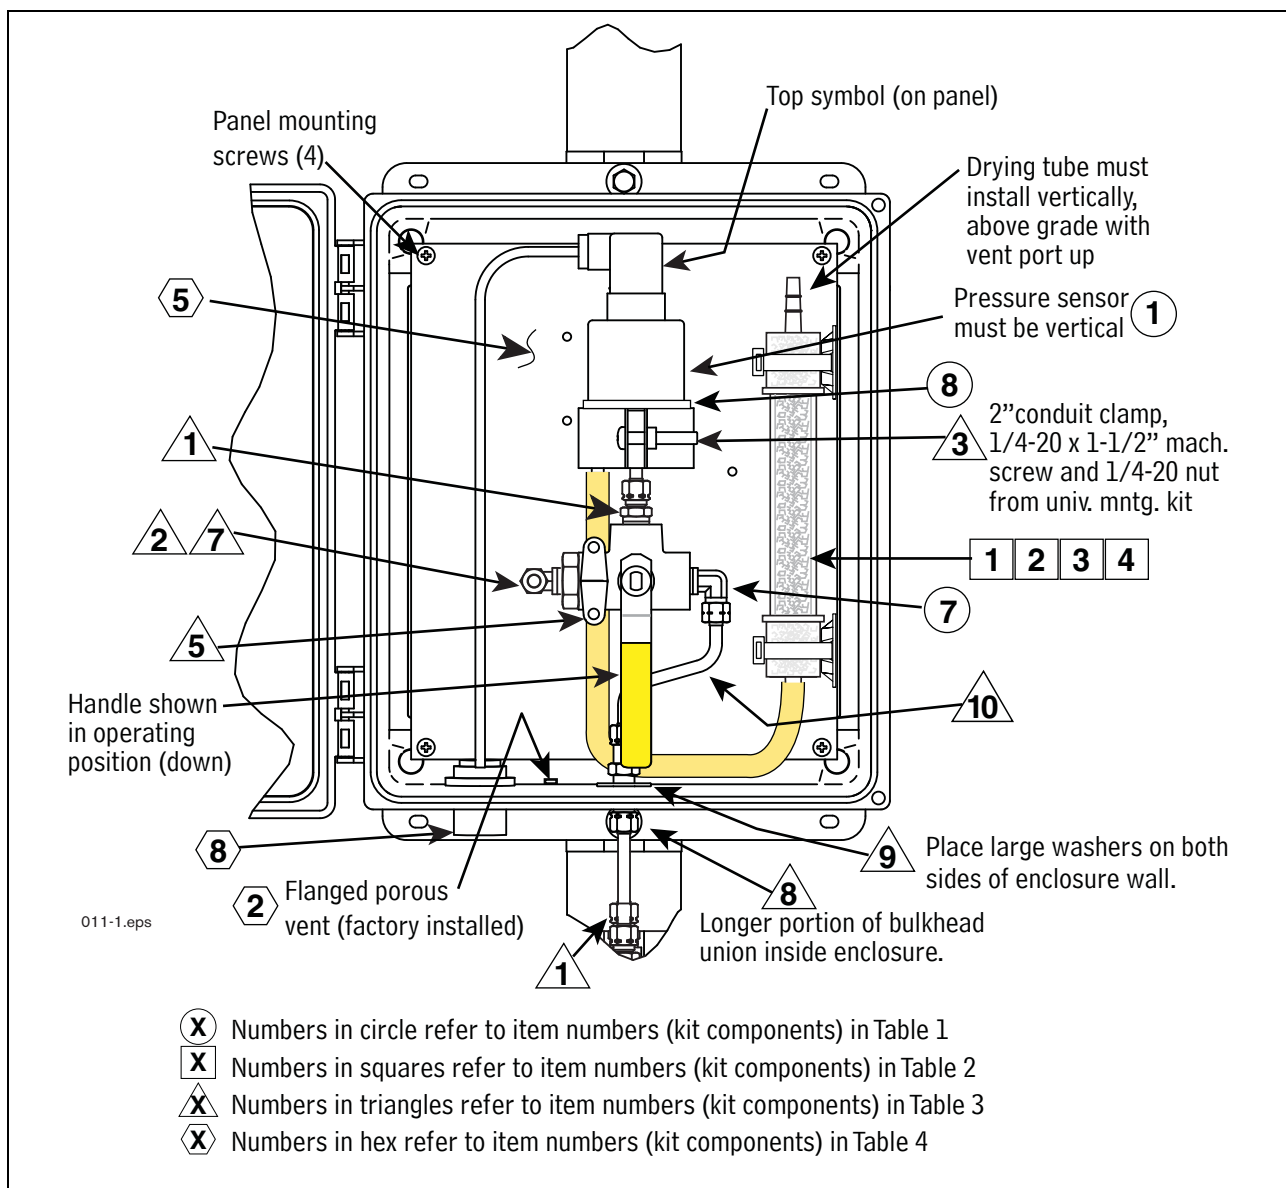

Figure 2. Mounting Pressure Sensor Assembly onto Composite Panel
4. Install the vapor pressure sensor (item 1 in Table 1) vertically onto the center of the composite panel (item 5 in Table 4). Insert the sensor in the 2-inch conduit clamp using necessary bolts, nuts, and washers included in the universal mounting kit (item 3 of Table 3). Be sure the top symbol on the panel is facing upwards (see Figure 2). Wrap the rubber shim (item 8 in Table 3) around the sensor before inserting it into the clamp. Also make sure the sensor cable outlet is facing up and the pressure sensing port tube in the base of the sensor is facing down. Locate the pressure sensor in the clamp, but leave the conduit clamp screw somewhat loose for later sensor height adjustment.
5. Install two 169CA-4-4 male elbows (item 7 in Table 3) into each end of the 3-way calibration valve (item 5 in Table 3) as shown (see Figure 2).
6. Install one 68CA-4-4 male connector (item 1 in Table 3) into the center port of the 3-way calibration valve, and then directly attach it to the vapor pressure sensor inlet port (center) (see Figure 2).
7. Screw the 59CA-4 plug (item 2 in Table 3) onto the left port's male elbow (see Figure 2).
9. Install the composite panel into the enclosure (item 5 in Table 4) such that the sensor cable outlet is facing up and the pressure sensing port tube in the base of the sensor is facing down. The top symbol on the panel should be facing upward. Use the four short screws included in the enclosure hardware bag.
10. Make sure that the white flanged porous vent (factory installed - item 2 in Table 4) is still securely installed into the hole in the bottom of the enclosure (see Figure 2).
11. Insert the S-bend 1/4" OD copper tube (item 10 in Table 3) into the right-side male elbow of the 3-way calibration valve, but do not fully tighten the compression nut (see Figure 2).
12. Locate the 62CABH-4 bulkhead union (item 8 in Table 3) and remove the compression nut and the adjustable nut then place a large washer (item 9 in Table 3) against the fixed, integral body nut. Slide the compression nut that was removed onto the bottom portion of the S-bend tube.
15. Fully tighten the compression nuts to connect the S-bend tube to the union and to the male elbow. Tighten the sensor conduit clamp screw to secure the sensor in its final vertical position (see Figure 2).
16. Get the contents of the pressure sensor drying tube kit (Table 2). Thread a tie wrap (item 3) through the slots in each of the self-adhesive mounts (item 4). Place the top mount against the large cap on one end of the tube and tighten the tie wrap until it is against the tube cap but you can still rotate the tube. Place the second mount against the other end cap of the tube, again pulling the tie wrap through the mount until it is against the tube cap but you can still rotate the tube.
Remove the two soft plastic seals from each end port of the drying tube. Get the Tygon tubing (item 2) from the kit and attach one end of the tubing to one end of the drying tube. Slide the tubing onto the drying tube as far as you can (snug). Referring to Figure 2, position the drying tube vertically in the enclosure with the open port of the tube up, and estimate the length needed to loop from the bottom of the drying tube up to the vent port (off center) of the Vapor Pressure Sensor. Cut the Tygon tubing at the estimated length (approximately a foot or so). Remove the paper cover from the self-adhesive base of the two tie wrap mounts and stick the drying tube to the inside of the enclosure as shown in Figure 2. Pull each of the tie wraps snug and cut off the excess. Attach the other end of the Tygon tubing to the vent port (off center) of the Vapor Pressure Sensor. NOTE: the upper port of the drying tube must remain open and be oriented up as shown in Figure 2.
22. Make sure the valve's handle is set to connect the sensor to the vapor vent stack as shown in Figure 2 and not to the capped (vent) port.